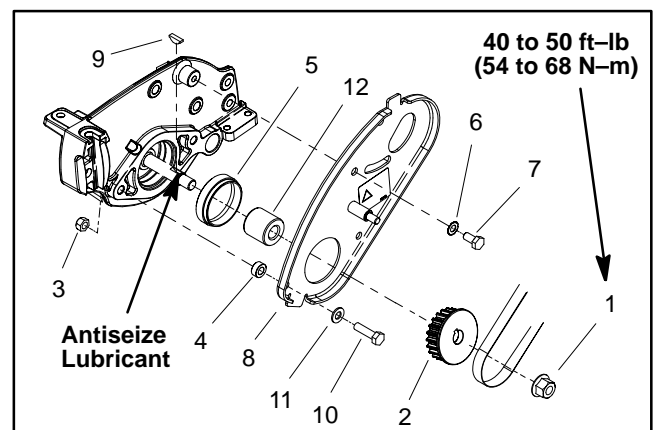

Figure 31
5. Block reel with a piece of wood to prevent reel from turning. Remove flange nut that secures drive pulley to reel shaft (Fig. 31). Remove pulley washer (if equipped) and pulley from the shaft. Remove woodruff key and seal spacer from reel shaft.
6. Remove reel drive plate from cutting unit (Fig. 31):
D. Locate and retrieve three (3) spacers (items 4 and 5) from between reel drive plate and side plate.
8. Support reel weight on right side of the cutting unit to prevent it from falling. Remove two (2) cap screws and flat washers that secure weight. Remove reel weight from cutting unit.
9. Install reel weight on right side of cutting unit with two (2) cap screws and flat washers.
10. Install reel drive plate to cutting unit (Fig. 31):
A. Position spacer (item 5) to LH side plate.
C. Position two (2) spacers (item 4) and reel drive plate to LH side plate.
D. Install two (2) cap screws, flat washers and lock nuts.
G. Carefully install spacer (item 12) into grease seal in LH side plate taking care not to damage seal.